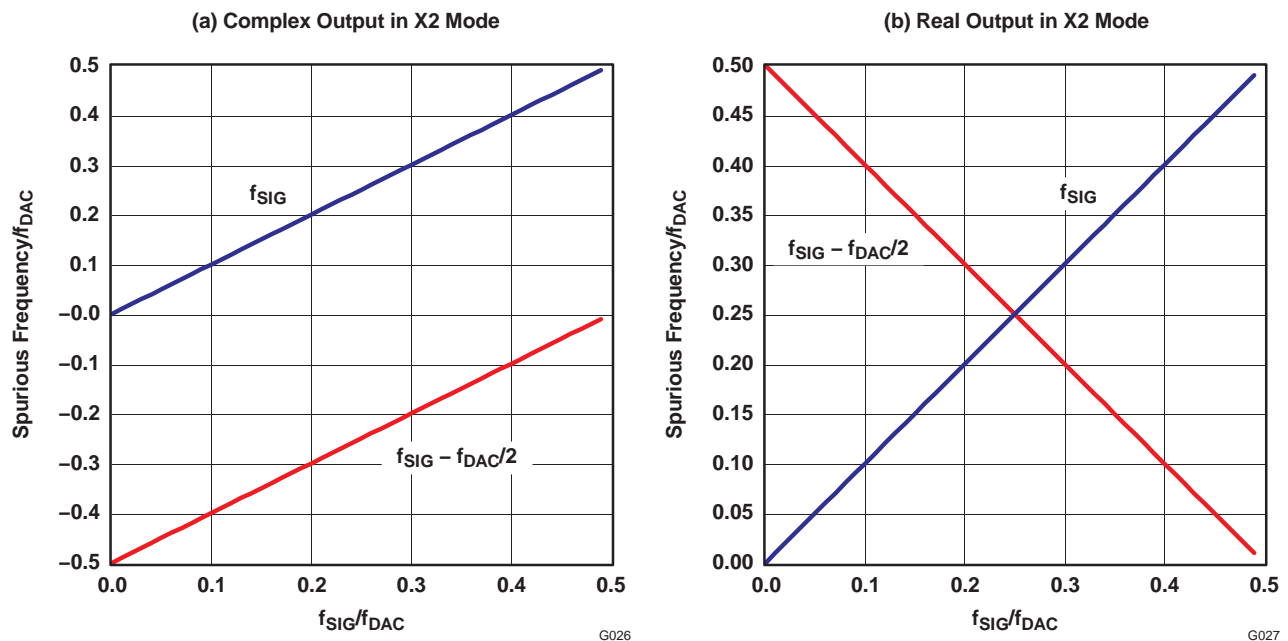
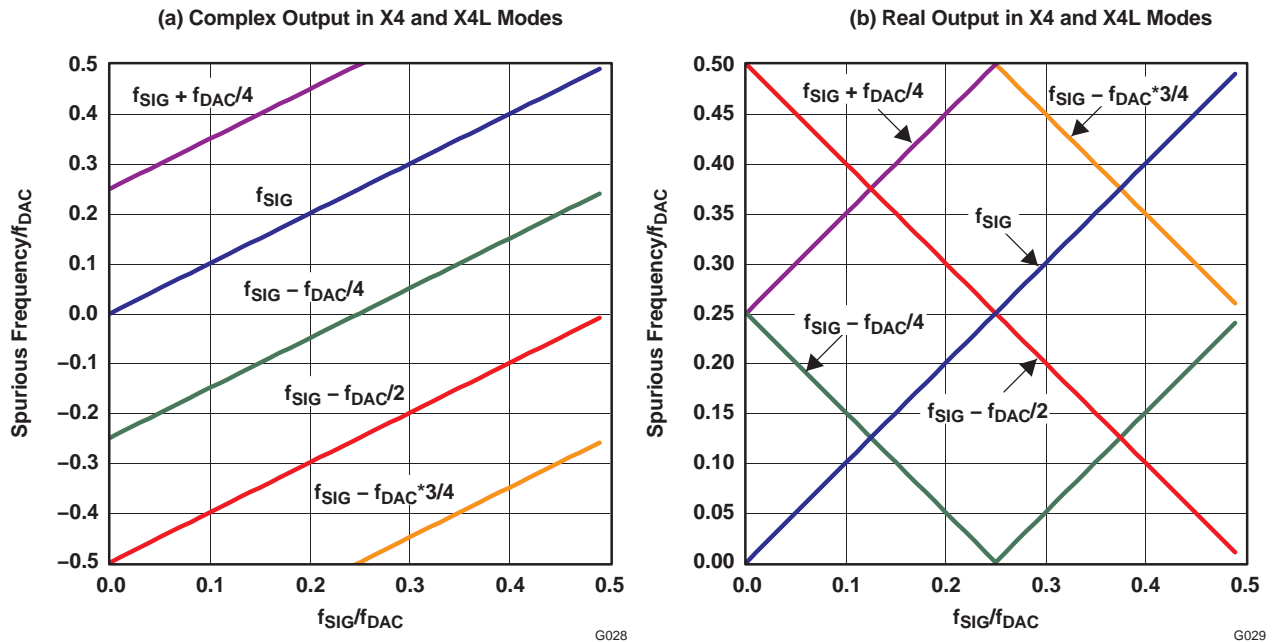

Figure 68. Frequency of Clock Mixing Spurious Images in X2 Mode
Figure 69. Frequency of Clock Mixing Spurious Images in X4 and X4L Modes
Figure 68 shows the location of spurious signals for X2 mode as a function of  $f_{SIG}/f_{DAC}$ . For complex outputs, the spurious frequencies cover a range of  $-0.5 \times f_{DAC}$  to  $0.5 \times f_{DAC}$ , with the negative complex frequency indicating that the spurious signal will fall in the opposite sideband at the output of the QAM from the wanted signal. For the real output, the phase information for the spurious signal is lost, and therefore what was a negative frequency for the complex output is a positive frequency for a real output.
Figure 69 shows the location of spurious signals for X4 and X4L mode as a function of  $f_{SIG}/f_{DAC}$ . The addition of the  $f_{DAC}/4$  clock frequency for the first interpolation filter creates three new spurious signals. For a complex output, the nearest spurious signals are  $f_{DAC}/4$  offset from  $f_{SIG}$ . For a real output, the signal due to  $f_{SIG} - f_{DAC}/4$  and  $f_{SIG} - f_{DAC} \times 3/4$  falls in band as  $f_{SIG}$  approaches  $f_{DAC}/8$  and  $f_{DAC} \times 3/8$ . This creates optimum real output frequencies  $f_{SIG} = f_{DAC} \times N/16$  ( $N = 1, 3, 5, \text{ and } 7$ ), where the minimum spurious product offset from  $f_{SIG}$  is  $f_{DAC}/8$ .
1. Find the spurious signal frequencies for the appropriate mode from Figure 68, Figure 69, or Figure 70.
First, the location of the spurious signals is found for the X4 complex output in Figure 69(a). Three spurious signals are present in the range  $-0.5 \times f_{DAC}$  to  $0.5 \times f_{DAC}$ : two from  $f_{DAC}/4$  (35 MHz and  $-215$  MHz) and one from  $f_{DAC}/2$  ( $-90$  MHz). Consulting Figure 71, the raw amplitudes for  $f_{DAC}/2$  and  $f_{DAC}/4$  are 60 and 58 dBc, respectively. From Figure 73, the amplitude adjustment factor for  $f_{SIG} = 0.32 \times f_{DAC}$  is estimated at  $\sim 1$  dB and so the  $f_{DAC}/2$  and  $f_{DAC}/4$  are adjusted to 61 and 59 dBc.
First, the location of the spurious signals is found for the X2 real output in Figure 68\(b\). One spurious signals is present in the range 0 to  $0.5 \times f_{\text{DAC}}$  at  $0.325 \times f_{\text{DAC}}$  (see Table 16). Consulting Figure 72\(a\), the raw amplitude for  $f_{\text{DAC}}/2$  is 47 dBc. From Figure 73, the amplitude adjustment factor for  $f_{\text{SIG}} = 0.175 \times f_{\text{DAC}}$  is estimated at  $\sim 6$  dB, and so the  $f_{\text{DAC}}/2$  and  $f_{\text{DAC}}/4$  is adjusted to 53 dBc.